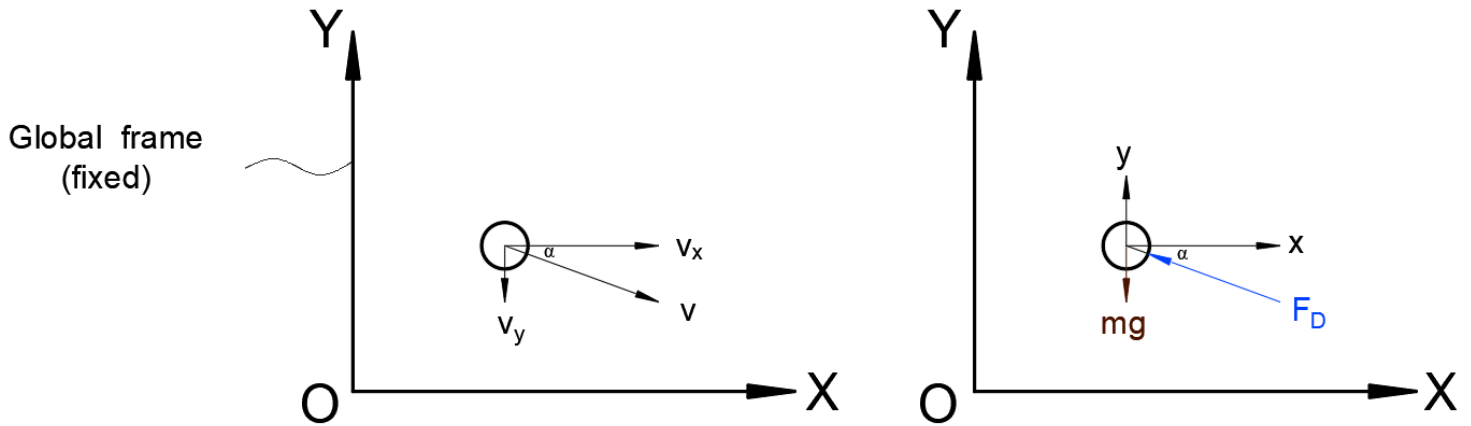

Figure 2: Kinematic (left) and dynamic (right) FBD of the problem.
Airsoft guns, use spherical rounds made of plastic material. The rounds are mainly subjected to aerodynamic and gravitational forces during their flight. The measurement above is made in order to predict the drag coefficient (C_D) of the airsoft rounds. After this, the necessary parameters for a gas or an electric mechanism to provide a good range while providing safe round velocity at target person to prevent severe injury can be found. The kinematic and dynamic FBD (Free body diagram) of the airsoft round is given in Figure 2.
- b) **(20%) Write down and classify** the equations of planar motion of an airsoft round using FBDs in Figure 2.